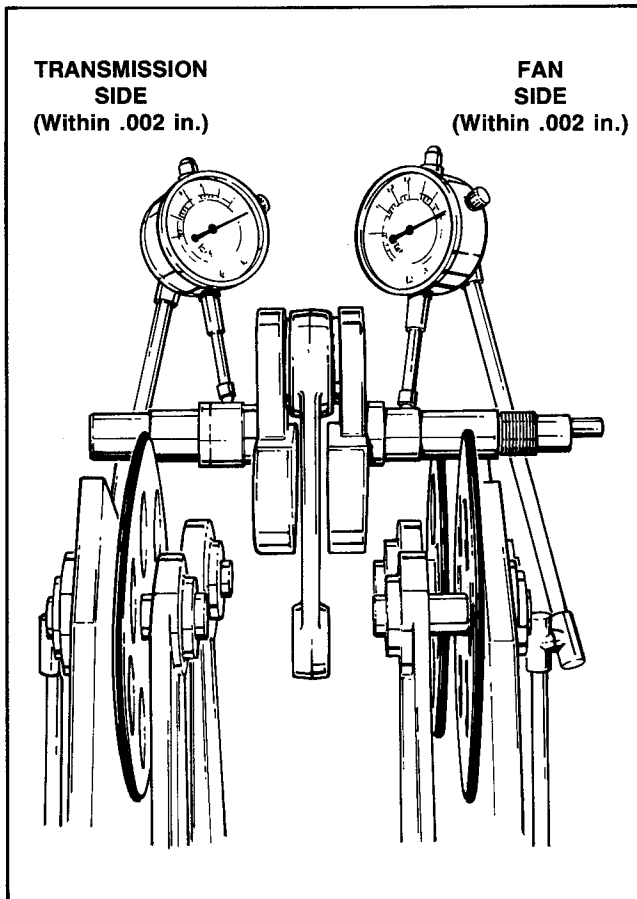

Figure 7-18 – Crankshaft Runout
- See Figure 7-18. Using a truing device and dial indicators as shown, check shaft.